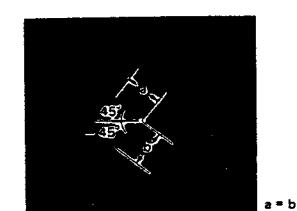

Fig. 3-6
- 2 Adjust R14 (BF PHASE) so that the phase is specified position as shown in Fig. 3-6.
- 3 Adjust R72 (BF PHASE) for quadrature as shown in Fig. 3-6.